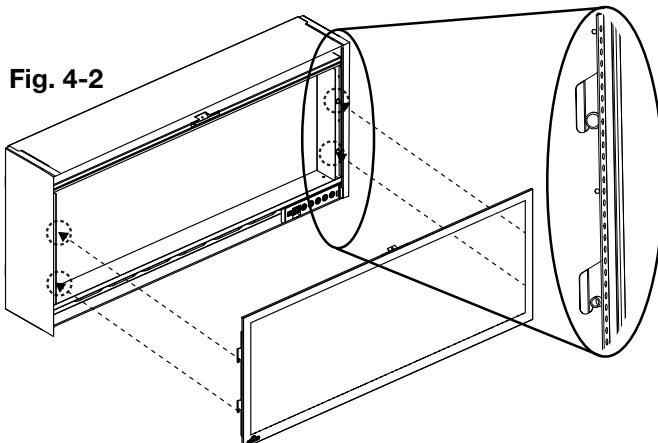

Fig. 4-2
- Install the front glass by aligning the pins on the appliance. Move the glass in and down to engage with the brackets (Fig. 4-2).